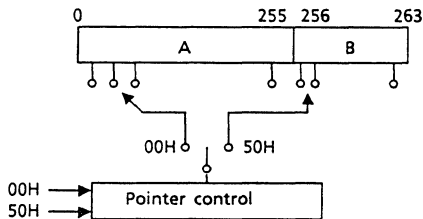

Figure 22. Pointer control
(2) Pointer control for "00H", "50H"
The TC5816AFT has two read modes which set the destination of the pointer to either the main memory area of a page or the redundancy area. The pointer can point to any location from 0 to 255 in read mode (1) and from 256 to 263 in read mode (2). Figure 22 shows the block diagram of their operations.